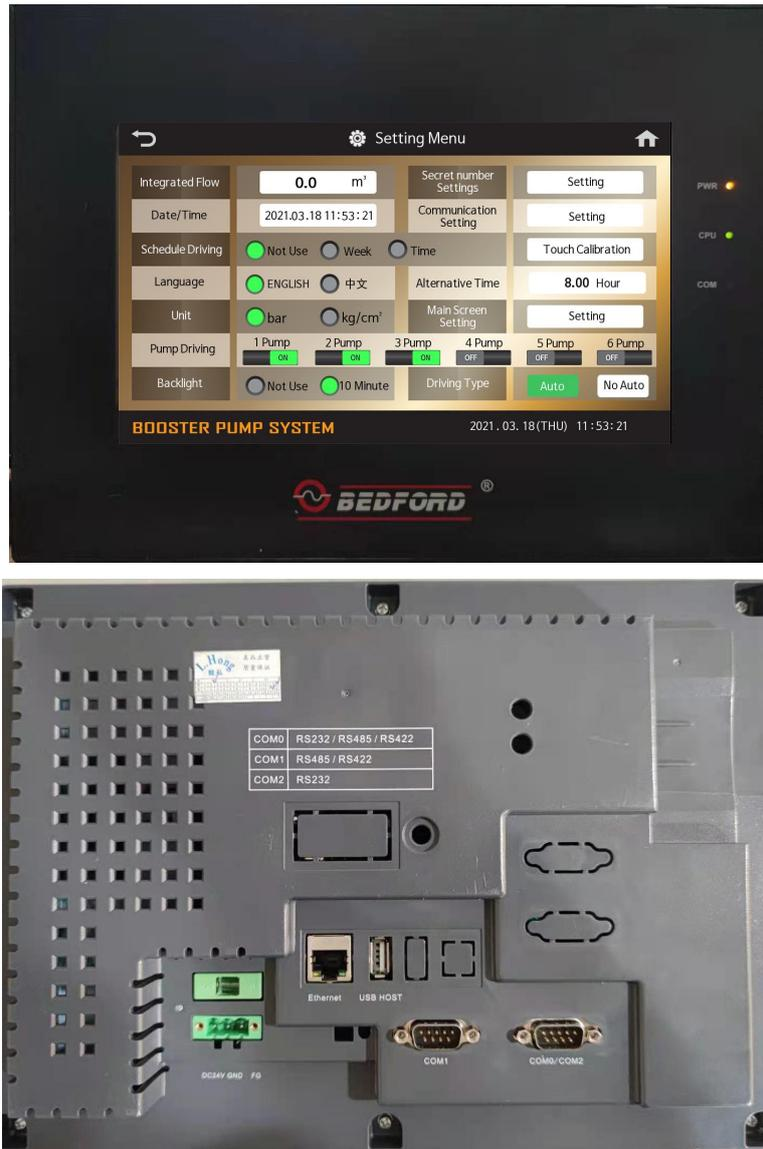

Figure2.2 10inch touch screen terminal and its introduction
(2) 10 inch touch screen BDF2000T-2-10/DC-2 wiring terminal as shown in Figure 2.2